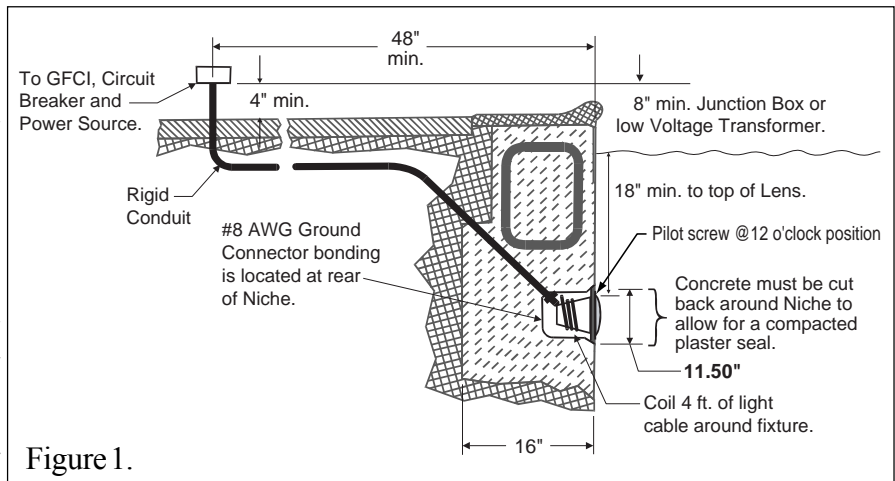

Figure 1.
A. Preparatory steps which must be completed by the electrician before light fixture is installed; see Figure 1.
- b. The Junction Box (or, for 12 volt models, the low voltage transformer) must be located at least 8 inches above water level, 4 inches above ground level, and at least 48 inches from the edge of the pool; see Figure 1.
- d. The wet niche must be properly installed so the pilot screw hole is at the 12 o'clock position and that the top edge of the underwater light's lens is at least 18 inches below the surface of the water in the pool; see Figure 1.
- e. The wet niche must be properly electrically bonded and grounded via the No. 8 AWG ground connector located at the rear of the niche; see Figure 1.
1. Feed cord through conduit to Junction Box, leaving at least 4 feet of cord at the light fixture to coil around the light; see Figure 1. This 4 feet of cord around the light allows the light to be serviced after the pool is filled with water.
- b. The Junction Box (or, for 12 volt models, the low voltage transformer) is located at least 8 inches above water level and at least 4 inches above ground level and at least 48 inches from the edge of the pool; see Figure 1.
- d. The wet niche is properly installed so that the top edge of the underwater light's lens is at least 18 inches below the surface of the water in the pool; see Figure 1.
- e. The wet niche is properly electrically bonded and grounded via the No. 8 AWG ground connector located at the rear of the niche; see Figure 1.
- Leave at least 4 feet of cord to coil around the light fixture; see Figure 1. This 4 feet of cord coiled around the light allows the light to be serviced after the pool is filled with water.